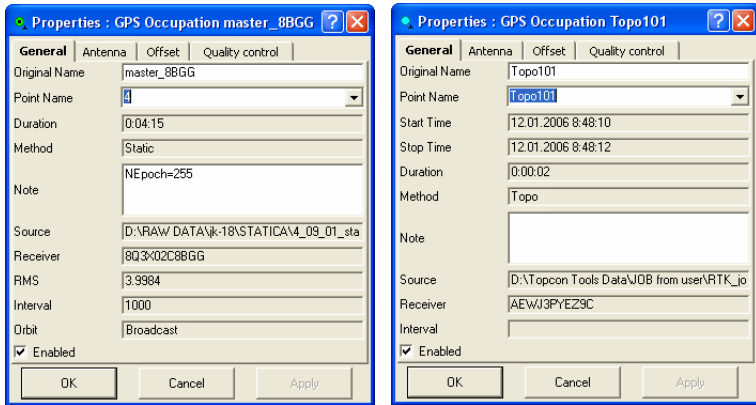

Figure 5-84. General Properties
2. View or edit *General* tab fields (Figure 5-84 on page 5-55). The fields vary depending on the type of occupation selected.